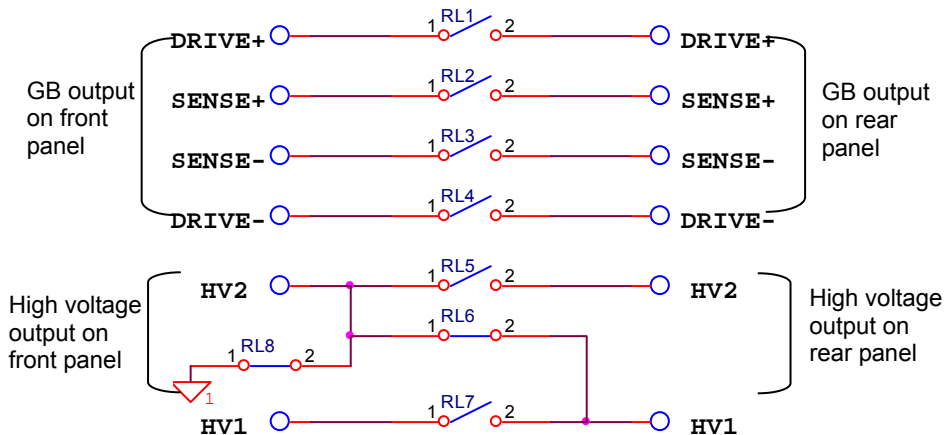

Figure 4-16
- (2) When set CHANNEL 3 as L (low):
- (a) Start test: HV1 terminal on rear panel and HV2 on front panel are short-circuited with low voltage terminal. DRIVE, SENSE terminals on front panel and DRIVE, SENSE terminals on rear panel are open-circuited as below Figure 4-16 shown.